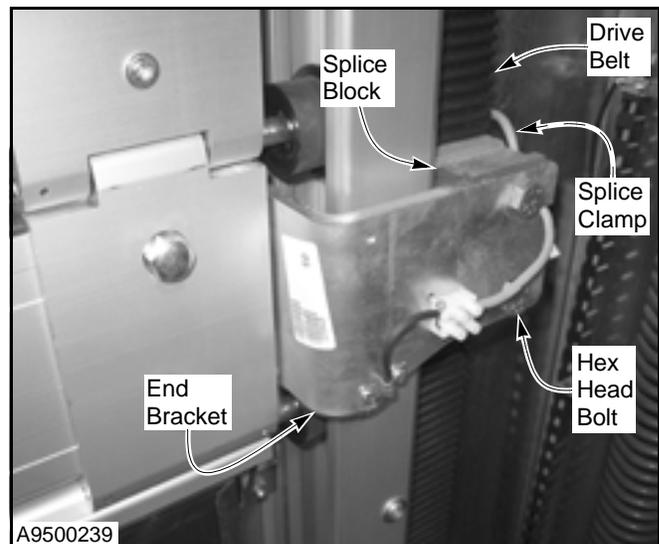

Figure 48
6. Loosen the hex head bolts on the end bracket to release the drive belt from the splice block. (See Figure 48.)